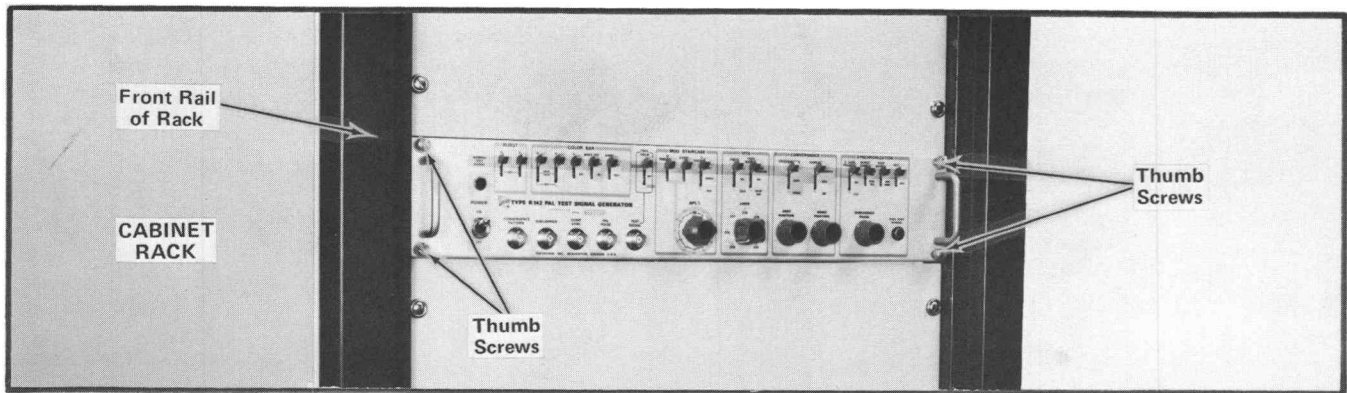
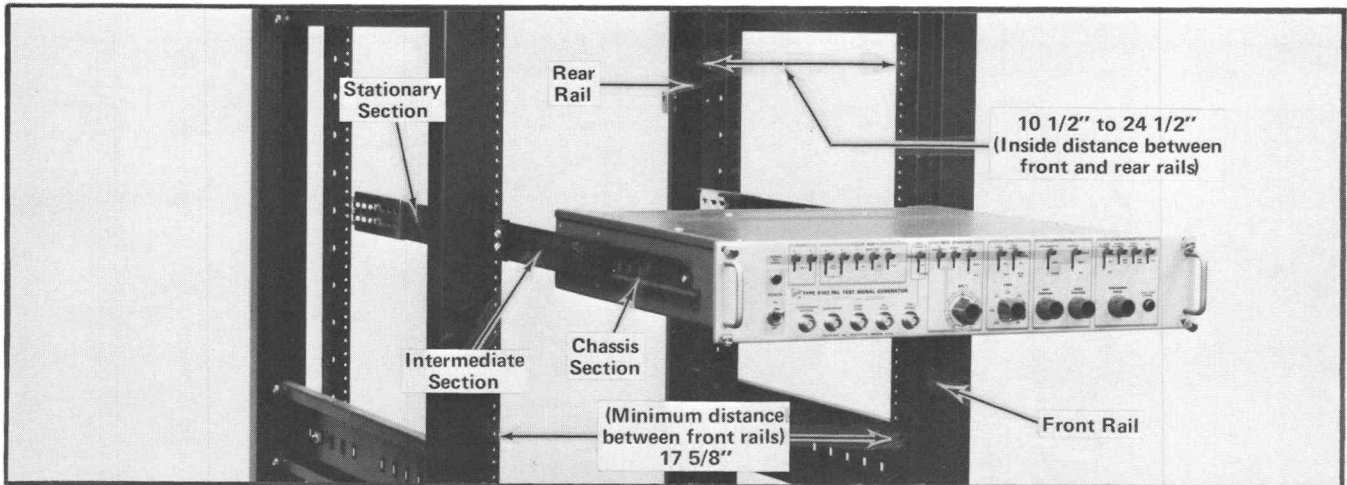
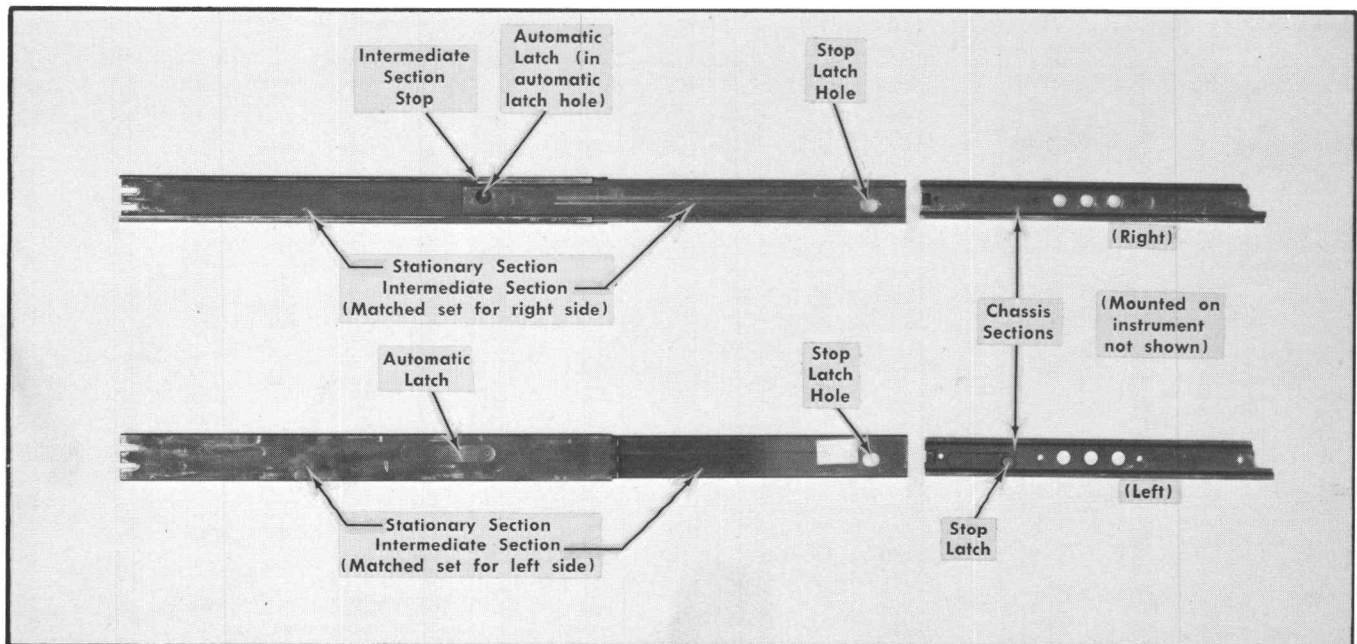

Fig. 6-1. The Type R142 installed in a cabinet type rack.
Fig. 6-2. The Type R142 shown in the fully extended position. The cabinet rack sides have been removed from the rack to show mounting.
Fig. 6-3. Illustration showing the 1 3/4-inch wide slide-out track assemblies.
#### Mounting Methods (Figs. 6-1, 6-2, 6-5 and 6-6)
Fig. 6-1 shows the instrument installed in a cabinet type rack with 1 3/4-inch wide slide-out tracks for a non-tilt installation. The instrument is secured into the rack by means of four captive thumb screws. When the thumb screws on the front panel are loosened, the instrument can be pulled out of the rack like a drawer to its fully extended position (see Fig. 6-2). This position permits many routine maintenance functions to be performed without completely removing the instrument from the rack.
**Width**—A standard 19-inch rack may be used. The dimension or opening between the front rails must be at least 17 5/8 inches (see Fig. 6-2) for a cabinet rack in which the front lip of the stationary section is mounted behind an untapped front rail as shown in the right-hand illustration of Fig. 6-6. This dimension allows room on each side of the instrument for the slide-out tracks to operate so the instrument can move freely in and out of the rack.
**General Information**—The slide-out tracks for the instrument consist of two assemblies, one for the left side of the instrument and one for the right side. Each assembly consists of three sections as illustrated in Fig. 6-3. The stationary section attaches to the front and rear rails of the rack with inside dimensions as indicated in Fig. 6-2; the chassis section attaches to the instrument and is installed at the factory; the intermediate section fits between the other two sections to allow the instrument to be fully extended out of the rack.
The stationary and intermediate sections for both sides of the rack are shipped as a matched set and should not be separated. The matched sets for both sides including hardware are marked 351-0195-00 on the package. To identify the assemblies, note that the automatic latch and intermediate section stop are located near the top of the matched sets when they are properly mated to the chassis sections as shown in Fig. 6-3.